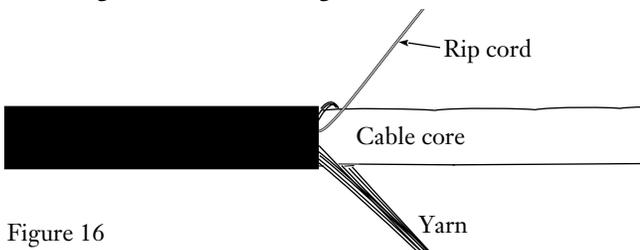

Figure 16
6.3 Locate and separate the rip cord from the yarn surrounding the cable core (Figure 16).